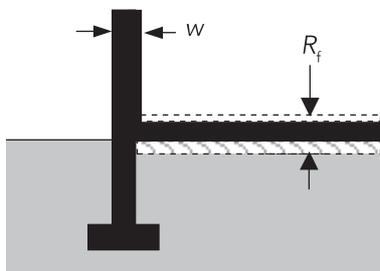

Figure 9
1. Plancher à isolation continue (cf. figure 9)